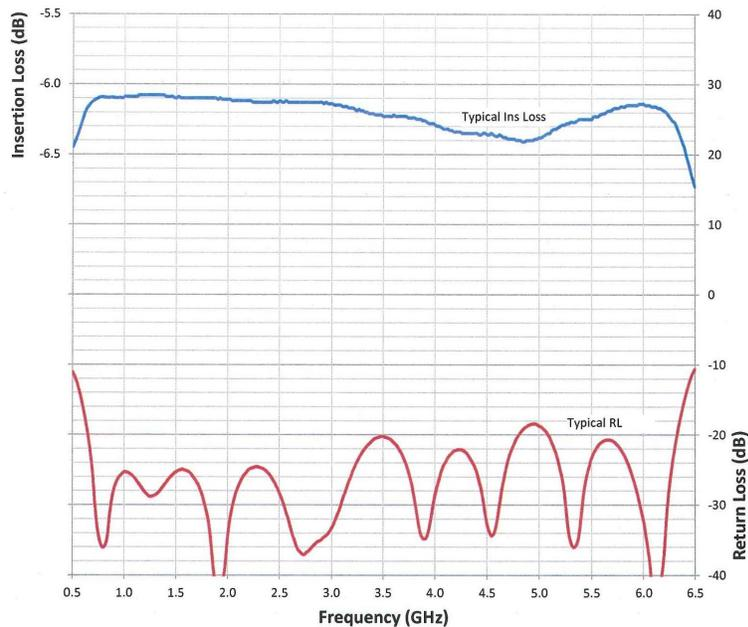

Figure 4-5. Typical 4-Way Combiner Insertion and Return Loss
- A typical Four-Way Combiner insertion loss is shown in Figure 4-5; a typical combined port return loss is shown in Figure 4-5. The unused port must be terminated when checking the insertion loss.
NOTE: The return loss of the Four-Way Combiner’s combined output port is typically better than 17 dB (See Figure 4-5).